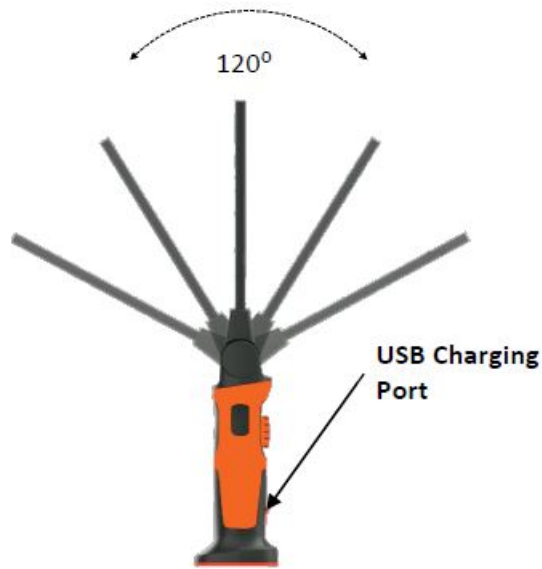

Fig. 1
2. Spotlight (150 lumens). In addition, the inspection lamp also has 120° of rotation (fig. 1) for multi-angle light output.
The USB C charging socket is located below the Brightness Control dial (fig.1). Plug the USB C cable into the light and the USB end into an appropriate USB port (e.g. Computer / Phone Charger). USB-C is an industry-standard connector for transmitting both data and power on a single cable. The charging process is symbolized by a flashing green LED on the Multi-Function Indicator. When fully charged all 4 LEDs will be lit.